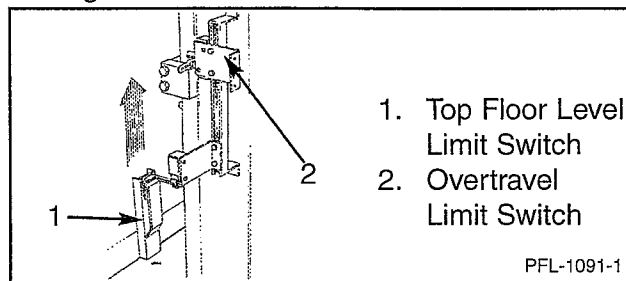

Figure 15
3. When the carriage arrives at the next level, the **floor level limit switch** (one per level) is activated by a carriage mounted cam. When activated, this switch cuts the power to the motor circuit, the motor starter contacts drop out (opens); the motor stops; and the brake is applied stopping and holding the carriage position. See Figure 15.
4. The carriage **overtravel limit switch** is a safety device mounted on the column above the top floor level limit switch. If there is a failure of the top floor level limit switch, this limit switch is activated by the carriage mounted cam on the side of the carriage, and it will send a signal to shut the unit down. Before activating the unit, have a qualified electrical controls technician find out why this occurred and correct the problem. See Figure 15.